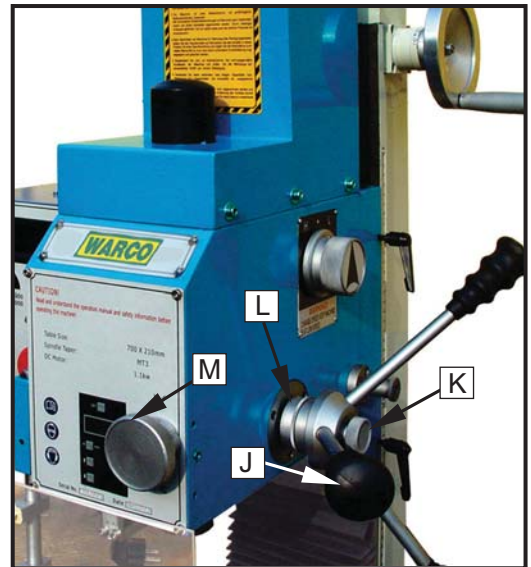

Fig. 08
**Down feed Handles: (J, Fig. 08):**
Located on the right side of the head casting. Counter-clockwise movement advances the quill toward the table. Return spring retracts the handles. **The knob (K, Fig. 08) must be loose before the operating the handles.** The graduated dials (L, Fig. 08) on the handle base can be indexed or “zeroed” to help make accurate and convenient movements.
Turn counter-clockwise the knob (K, Fig. 08) to engage the fine down feed knob (M, Fig. 08) what located on the front of the head. Turn it according to you want to move downward, Clockwise turn the hand wheel to down feed the spindle, reverse to retract it.